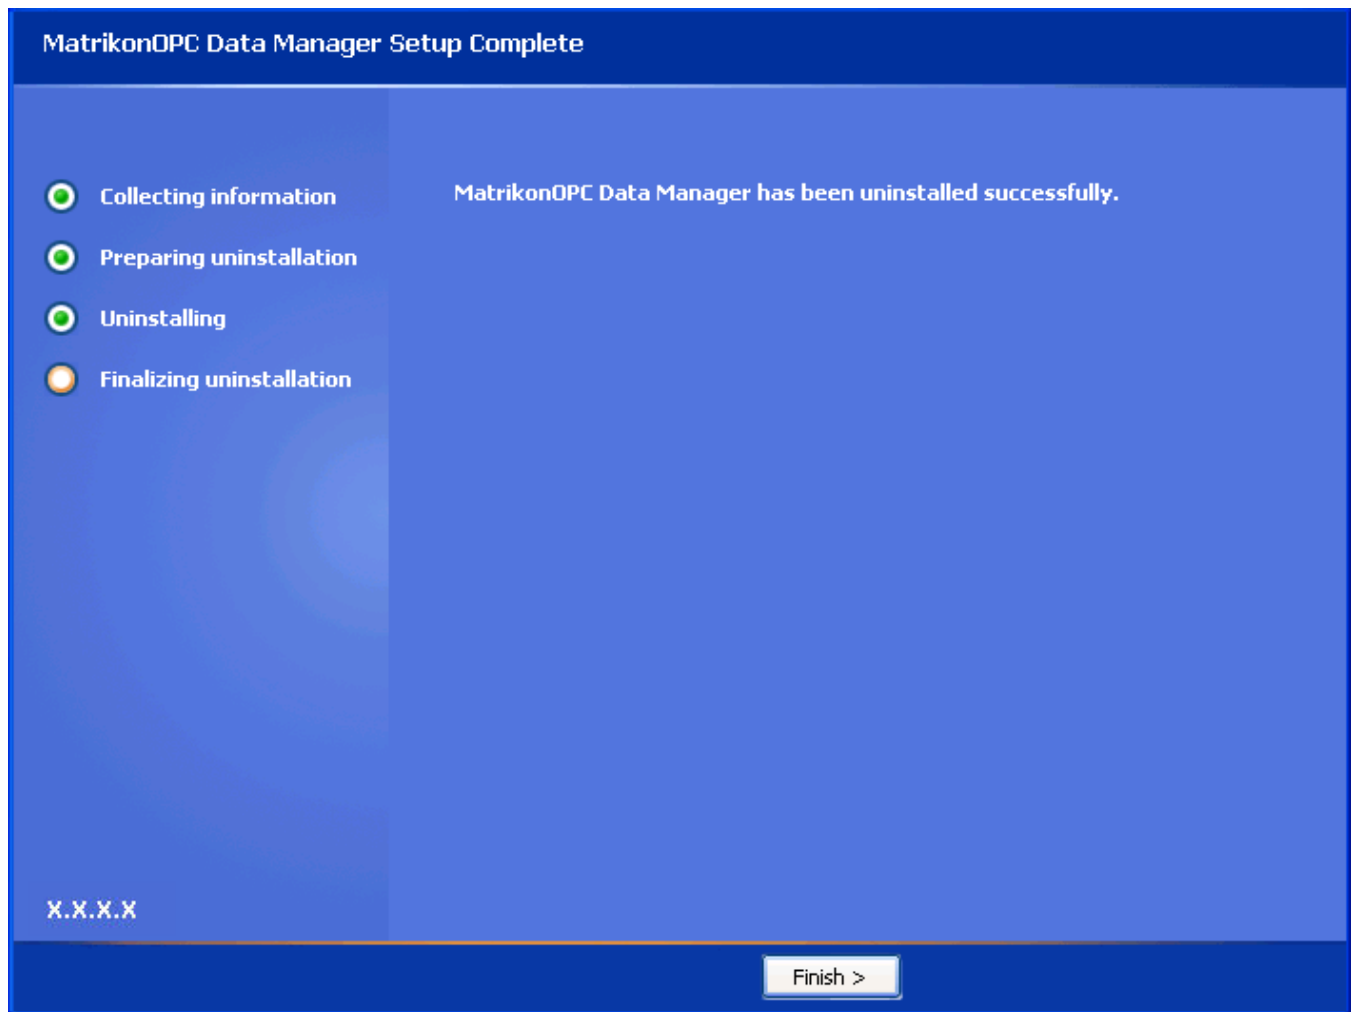

Figure 70 - MatrikonOPC Data Manager Setup Complete Screen
12. When the un-install has finished, the **MatrikonOPC Data Manager Setup Complete** screen (Figure 70) appears stating that MatrikonOPC Data Manager was successfully un-installed.